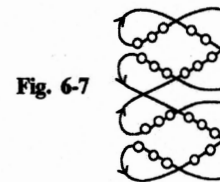

Fig. 6-7
7. Eight-ridge flat braid with a twill pattern ('Lacing braid'). (Fig. 6-7)